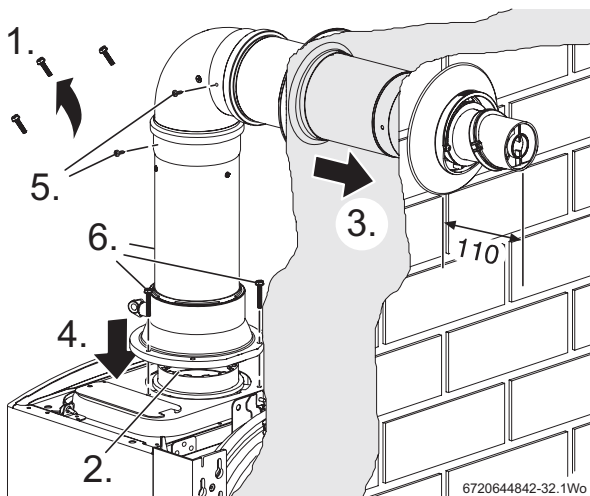

Fig. 17 Fitting the high level horizontal flue
1. Referring to figure 17, remove and discard the three screws securing the flue outlet in the boiler.